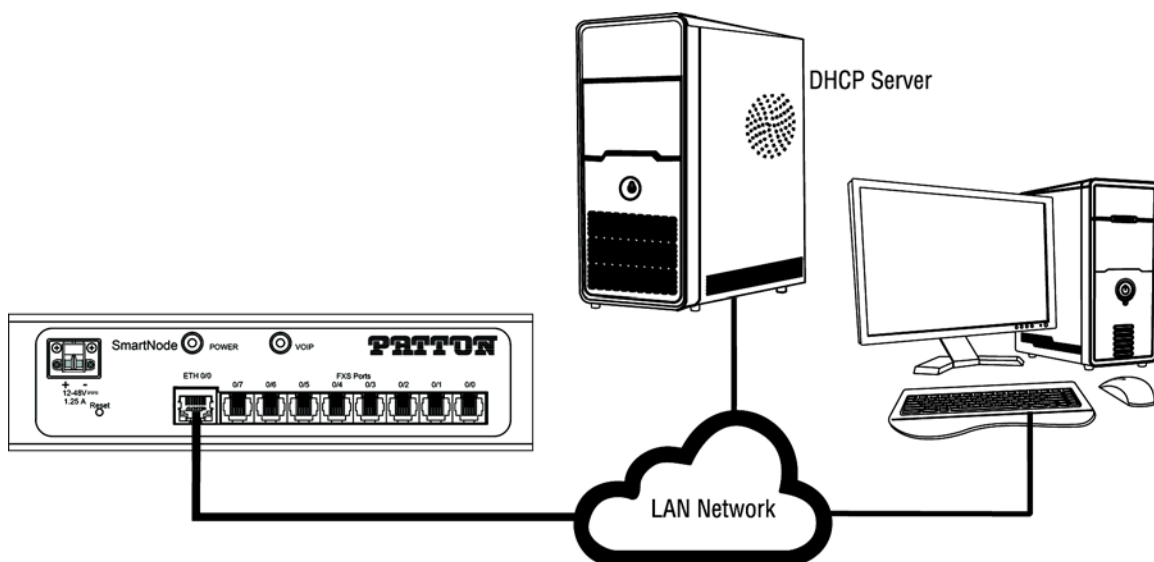

Figure 16. Connecting SmartNode device and PC to a LAN with DHCP server.
2. The SmartNode device is connected to a local area network (LAN) that has a DHCP server running which assigns an IP address to the SmartNode device (see figure 16). Using the SN Discovery tool, the SmartNode device's IP can be determined.